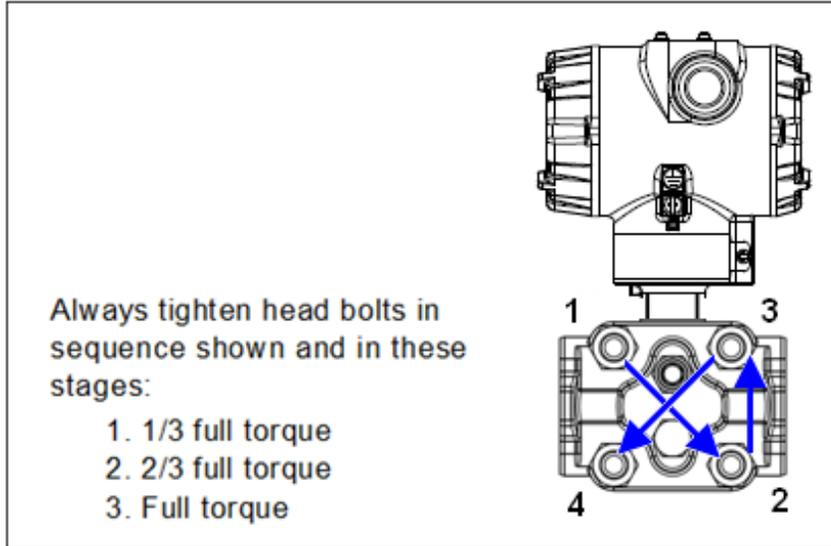

Figure 23 – ST 700 Standard Transmitter - Head Bolt Tightening Sequence
4. Loosen the nuts in the sequence shown in Figure 23.
12. Using a torque wrench, gradually tighten the nuts in the sequence shown in Figure 23. Tighten head bolts in stages of 1/3-full torque, 2/3-full torque, and full torque. Refer to the values in Table 21 for torque requirements versus transmitter type and model.